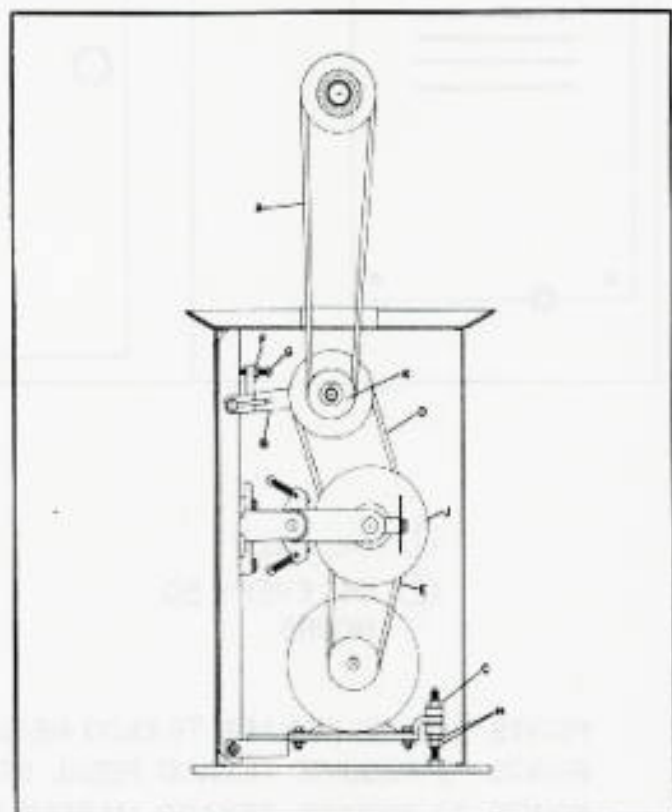

Fig. 33.
2. Unscrew nut (C) Fig. 33, on the motor mounting plate.
3. Raise the motor and remove lower variable speed belt (E) Fig. 33.
4. Raise the variable speed pulley (J) Fig. 33, by moving the variable speed control lever. Release tension on spindle belts (A) by loosening nut (F) and screw (G) Fig. 33. Remove spindle belts (A) from jackshaft pulley (K). Then remove the upper variable speed belt (D).